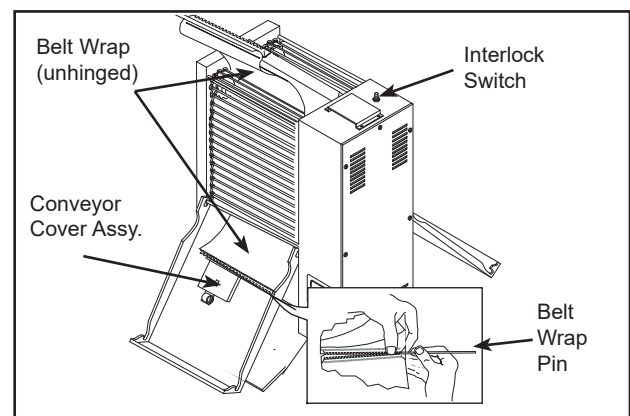

Figure 3 Removing Belt Wrap
3. Open both Conveyor Covers pull the Belt Wrap Pin out of the "zipper" (Figure 3).